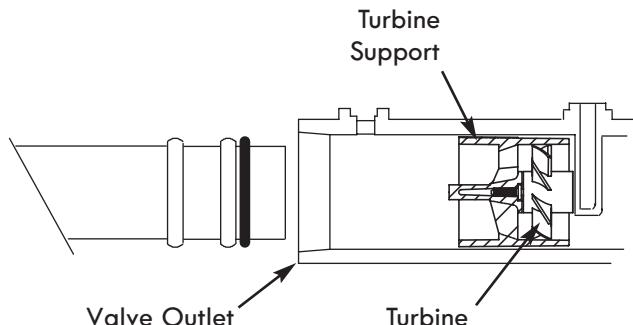

Figure 6
5. Visually check and remove any foreign materials from the valve inlet and outlet ports (see Fig. 5). Carefully remove the two large plastic clips (you will use them). Check to be sure the turbine and support are firmly in place (see Fig. 6).